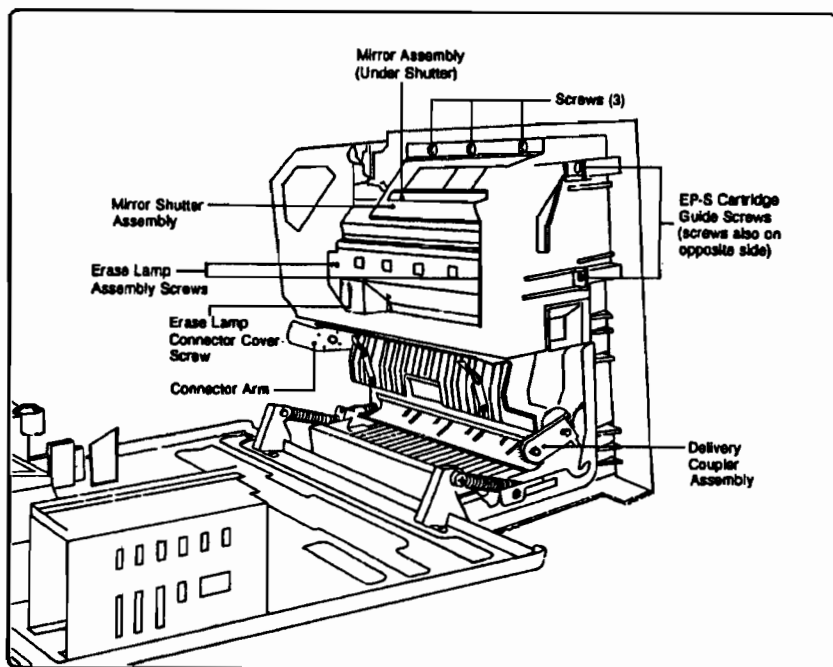

Figure 6-51. Shutter, Mirror, and Erase Lamp Assemblies
The Mirror Shutter Assembly (Figure 6-51) is located above the Erase Lamp Assembly near the top of the opened Top Cover Assembly.
2. Remove the (3) Mirror Shutter Assembly mounting screws shown in Figure 6-51.
2. Remove the Mirror Shutter Assembly (3) or slide the shutter to the right past the lever and swing it up and out of the way.
4. Loosen the plastic frame (the EP-S Cartridge Guide) holding the Mirror and Erase Lamp assemblies by removing the large upper screws (4 of 5) that secure the EP-S Cartridge Guide Frame (see Figure 6-51) to the Top Cover Assembly.
The Erase Lamp Assembly (see Figure 6-51) contains the Erase Lamp PCA and surrounding sheet metal.
2. Remove the connector cover (1) on the Erase Lamp Assembly (see Figure 6-51).
The Erase Lamp Connector Arm (see Figure 6-51) enables power to the lamps from the Exit Sensor PCA located on the Fusing Assembly.
3. Remove the connector cover (1) on the Erase Lamp Assembly (see Figure 6-51).